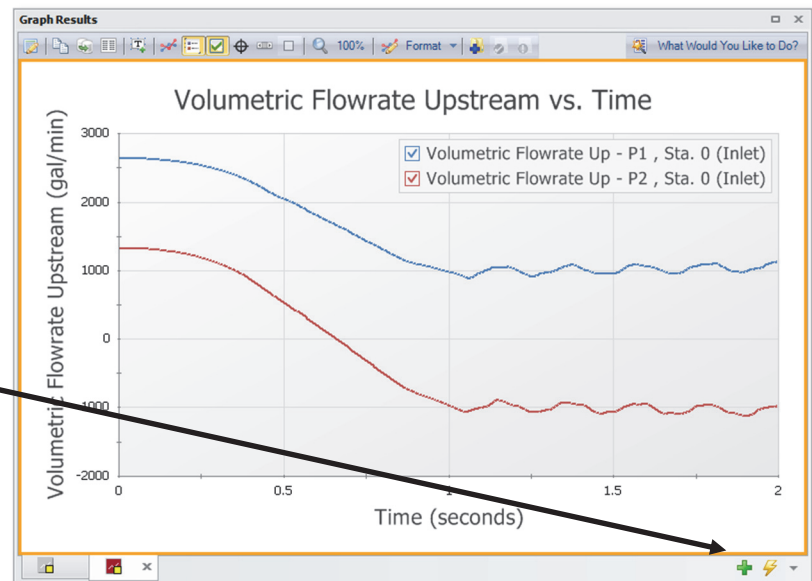

Figure 2.27 Transient flowrates out of the reservoirs
- **Create a new graph tab** by clicking the “New Tab” button which is the green plus icon located on the bottom right, immediately below the graph area (Figure 2.27)
- **Click the Generate button** to display the graph. A graph of these stations shows the flowrates out of the two supply reservoirs. Note that after the valve closes, the fluid in Reservoir J1 flows to Reservoir J2 (Figure 2.27).